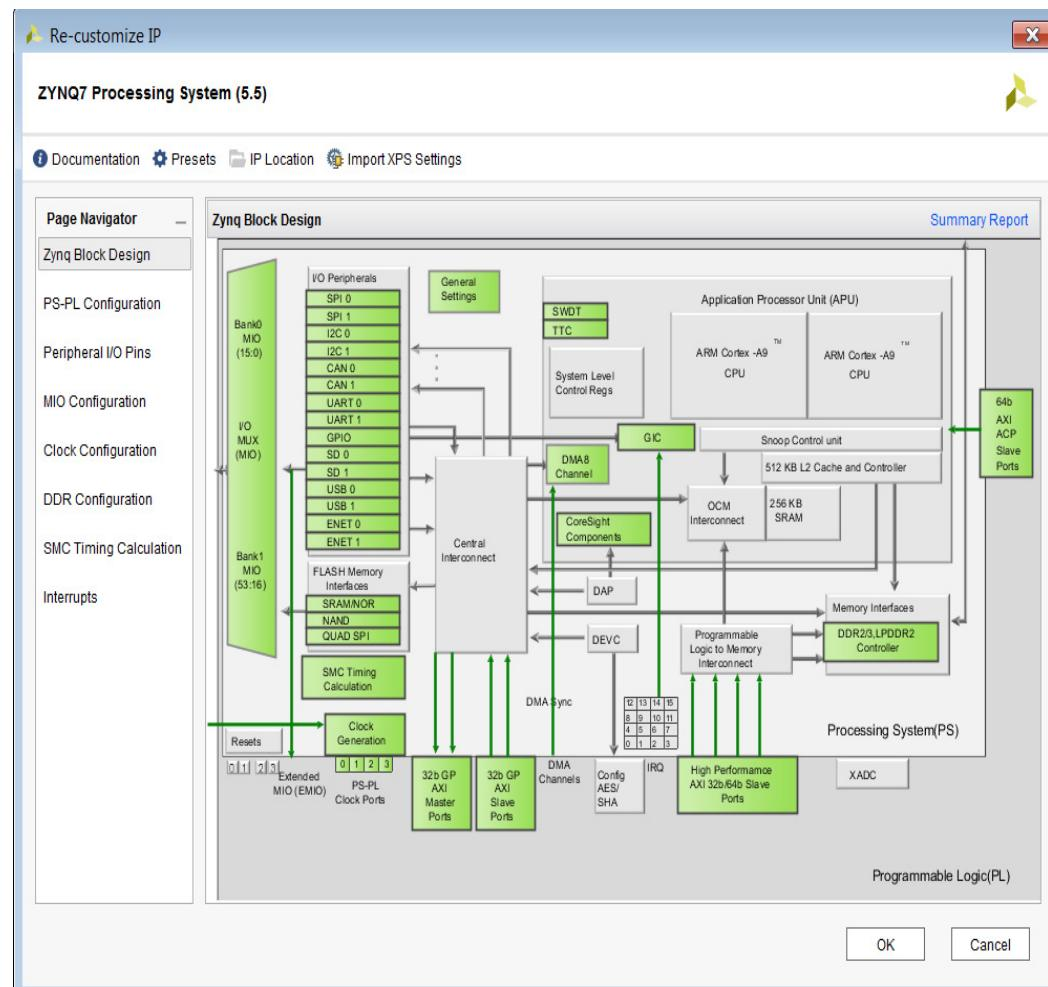

Figure 10-13: Configure the Zynq SoC
- a. Click the **Presets** icon and select **ZC702** (Figure 10-13).